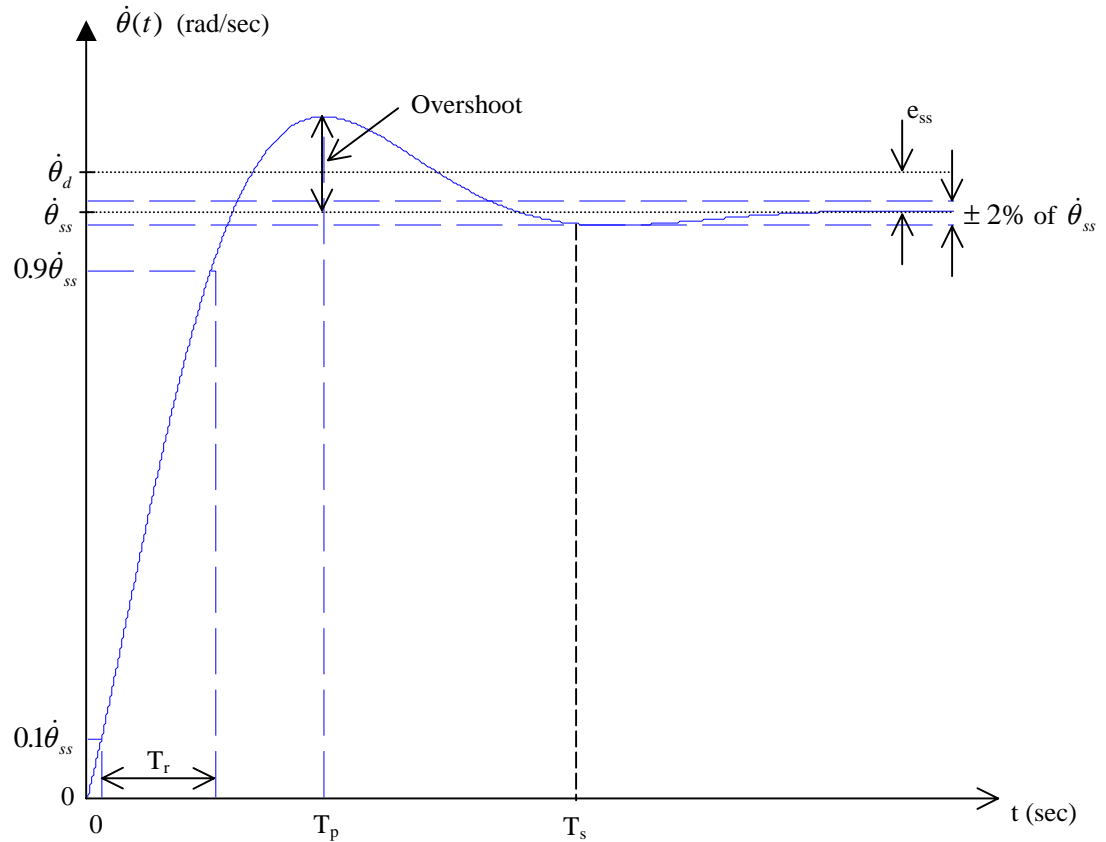

Figure 2: Performance Metrics for Control System Step Responses
3. Adjust the open loop gain K , so $\dot{\theta}_d(t) \approx \dot{\theta}(t)$ and plot responses for $\dot{\theta}_d(t) = 50$ rad/sec, 80rad/sec. Measure the response peak time T_p , percent overshoot P.O., settling time T_s , rise time T_r , and steady state error e_{ss} as shown in Figure 2 and discussed in Table 1. Which of these measured response parameters can be varied with the controller gain K ?